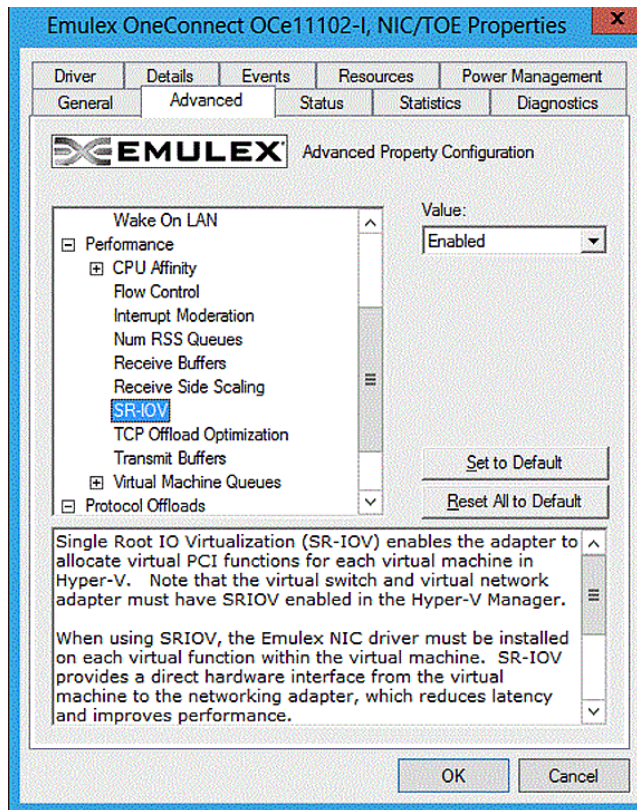

Figure 3-6 Emulex NIC Advanced Properties Page
4. Click the **Advanced** tab. The Advanced Property Configuration page opens (see Figure 3-6 on page 81).